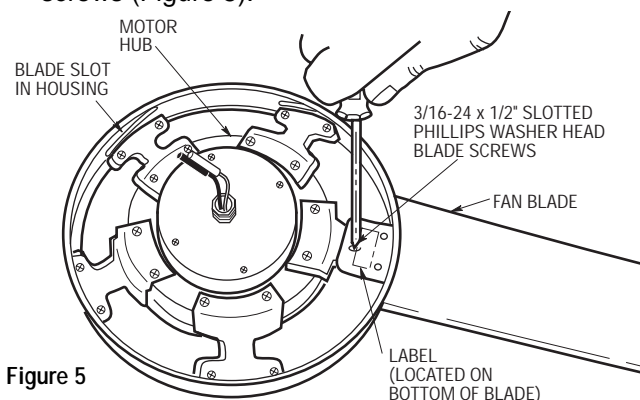

Figure 5
- ☐ 8. To ensure proper blade assembly, make sure the label on the blades are facing the bottom of the ceiling fan. Slide blade through center slot in fan housing. Mount blade to fan housing using three 3/16-24 x 1/2" slotted Phillips washer head blade screws (Figure 5).